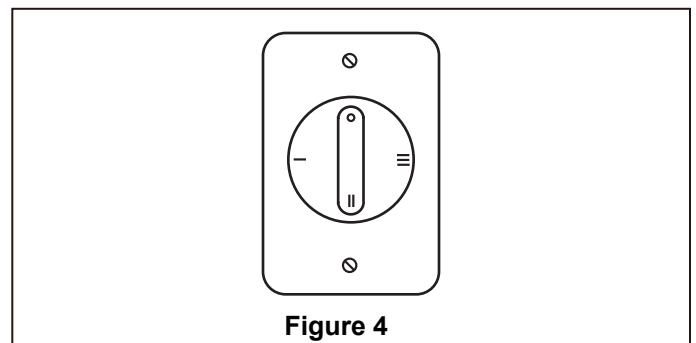

Figure 4
2. Carefully lift the fan and seat the downrod/hanger ball assembly on the hanger bracket that was just attached to the timber batten. Be sure the groove in the ball is lined up with tab on the hanger bracket. (Figure 4)
- Check the operation of the fan by rotating the control through the four positions marked 0 - III ("0" position is OFF) (Figure 4).